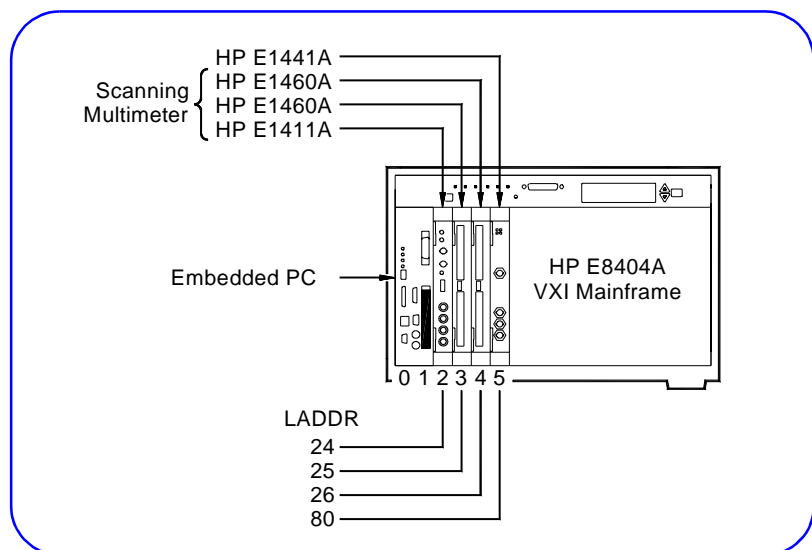

Figure 13. Example: Scanning Multimeter Logical Addresses
- A multimeter and one or more multiplexers can be used to form a **scanning multimeter**. In this case, the instruments must be in adjacent mainframe slots and must have sequential logical addresses (see Figure 13). In addition, for HP E1406A systems the multimeter must have a logical address that is a multiple of 8.
Figure 13 shows an HP E6234A embedded PC installed in Slots 0 and 1 and VXI instruments installed in slots 3 through 6 of an HP E8404A VXI mainframe. The HP E1411B multimeter and the two HP E1460A multiplexers form a scanning multimeter since they are in adjacent mainframe slots, and they have sequential (24, 25, 26) logical addresses.